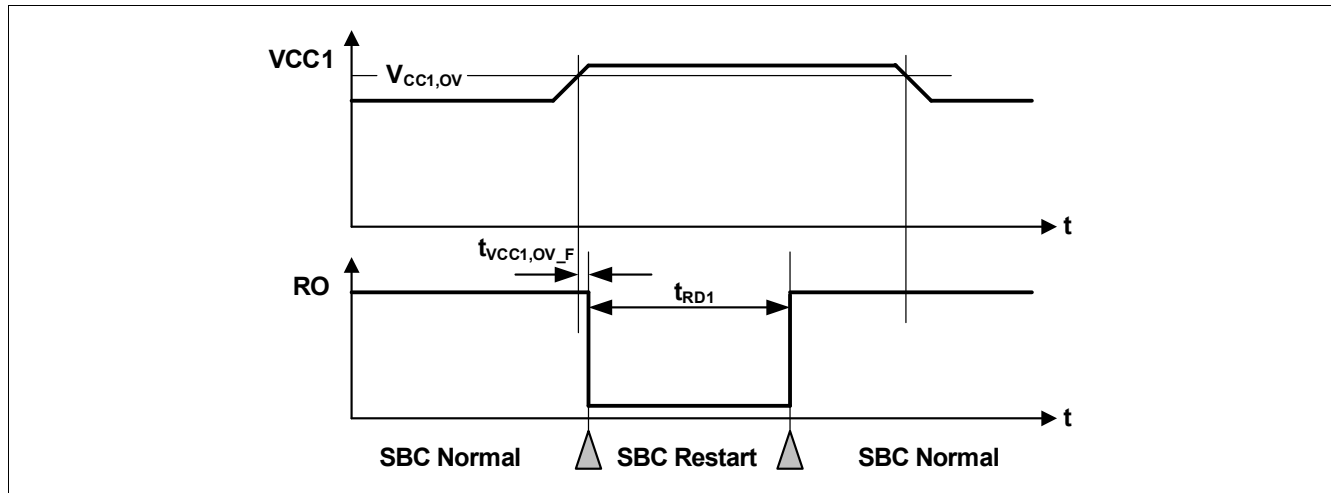

Figure 53 VCC1 Overvoltage Timing Diagram
- If the bit **VCC1_OV_RST** is set and **CFG_P** = '1', then SBC Restart Mode is entered. The FOx outputs are activated. After the reset delay time (t_{RD1}), the SBC Restart Mode is left and SBC Normal Mode is resumed even if the VCC1 overvoltage event is still present (see also **Figure 53**). The **VCC1_OV_RST** bit is cleared automatically;